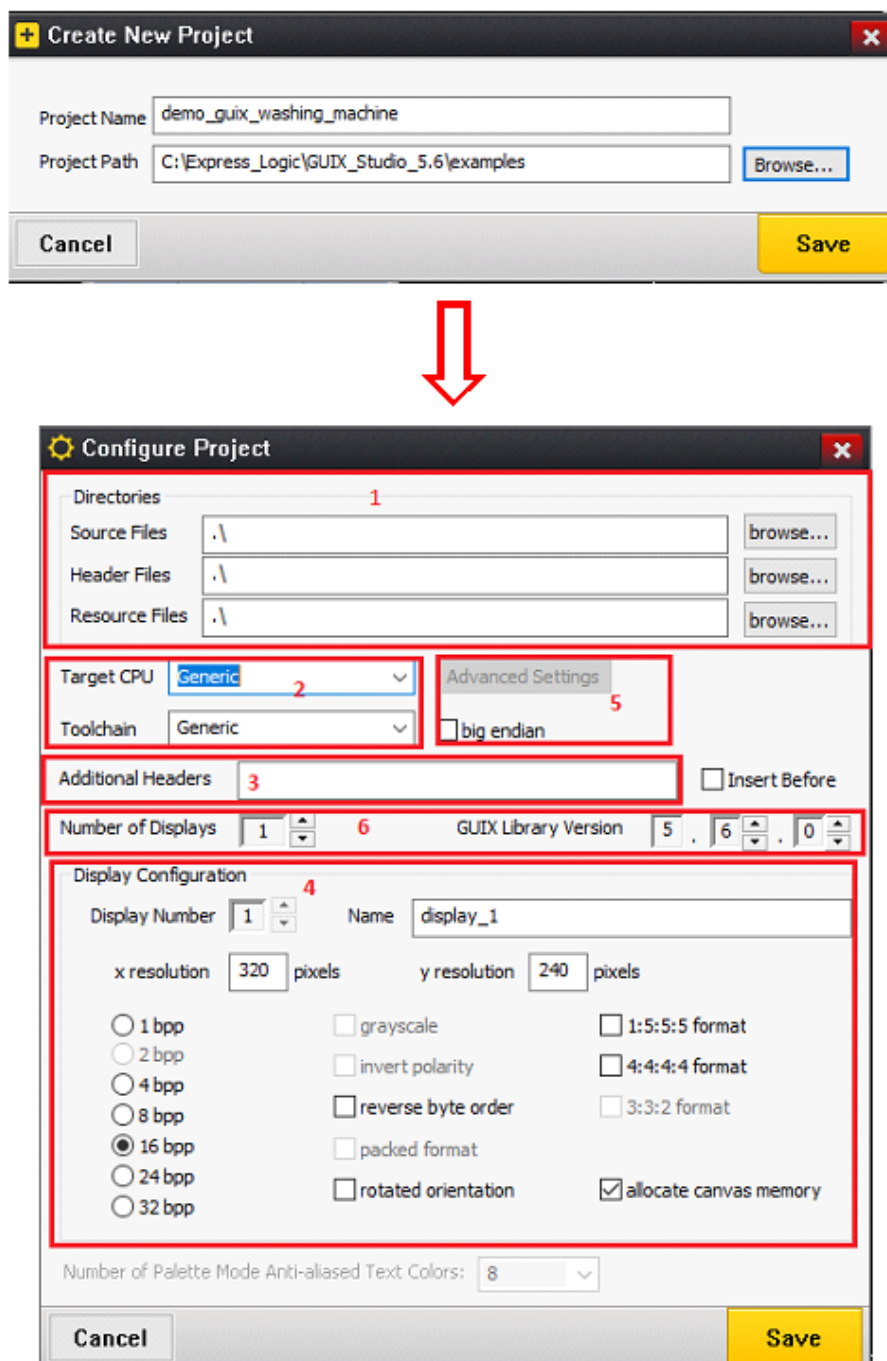

Figure 5. New Configure Project Window
From the **Configure Project** snapshot as shown in the Figure 5, directories section (1) shows the selectable directories where the GUIX source files and header files need to reside. The resource files directory is also your selectable directory where the GUIX Studio generated resource files (specification file will be located).